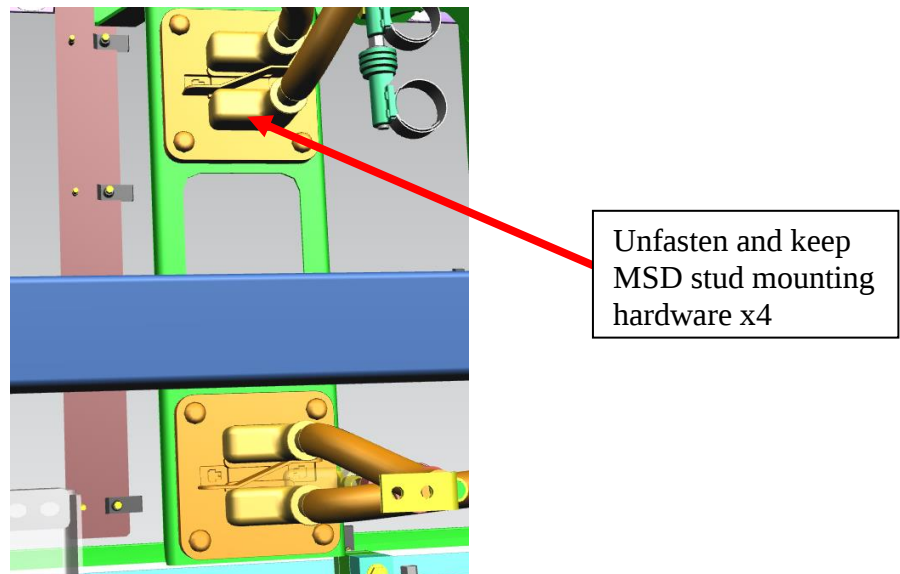

Figure 14: Rear ESS MSD Receptacle backside
4.2 Unfasten nuts from MSD receptacle studs x4 and keep hardware. Remove and discard MSD receptacles x2. See figure 14.